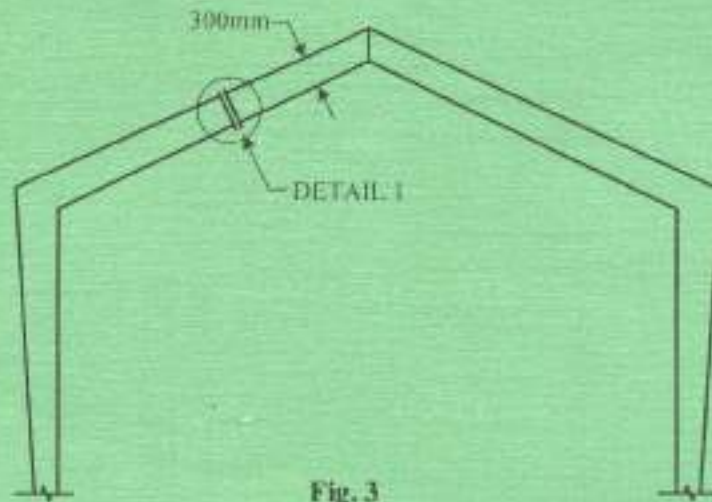

Fig. 3
8. (a) **Figure 3** shows part elevation of a precast concrete portal frame. To a scale of 1:10, draw a typical method of joining the pitched spanning member at **detail 1**. (8 marks)